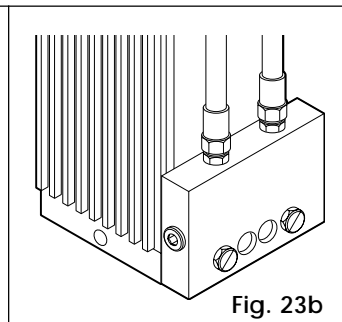

Fig. 23b
**ANTI-VANDALISM VALVE (Fig. 23b)**